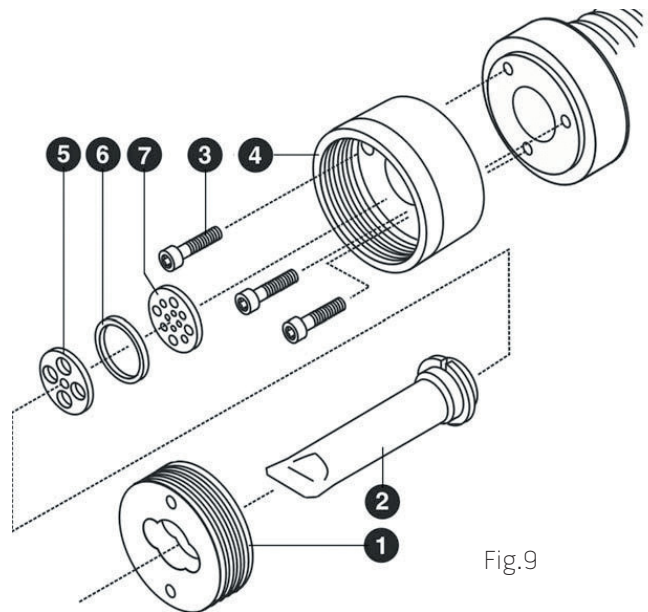

Fig.9
- ⇒ Carefully clean the nozzle, nozzle head, nozzle head nut, 5-hole mixing disk, spacer ring and 12-hole mixing disk (figure 9).